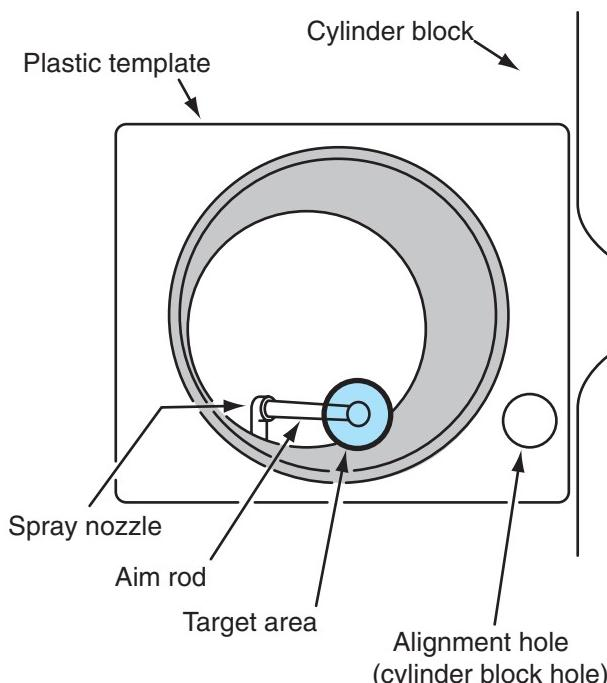

Figure 4-6 Spray nozzle targeting.
3. Spray—A stationary cooling jet is located in the cylinder block just below the cylinder liner. This jet is fed by engine lube under pressure. The oil cooling jet is then aimed so that the spray is directed at the underside of the piston. This oil cools the piston crown and may also lubricate the wrist pin. Aiming cooling jets is usually done using a clear perspex template that fits over the fire ring groove on the cylinder block deck: an aim rod is inserted in the jet orifice. A target window is scribed in the perspex template and the aim rod has to be positioned within the window as shown in **Figure 4-6**. The spray cooling method is used in a majority of current diesel engines.